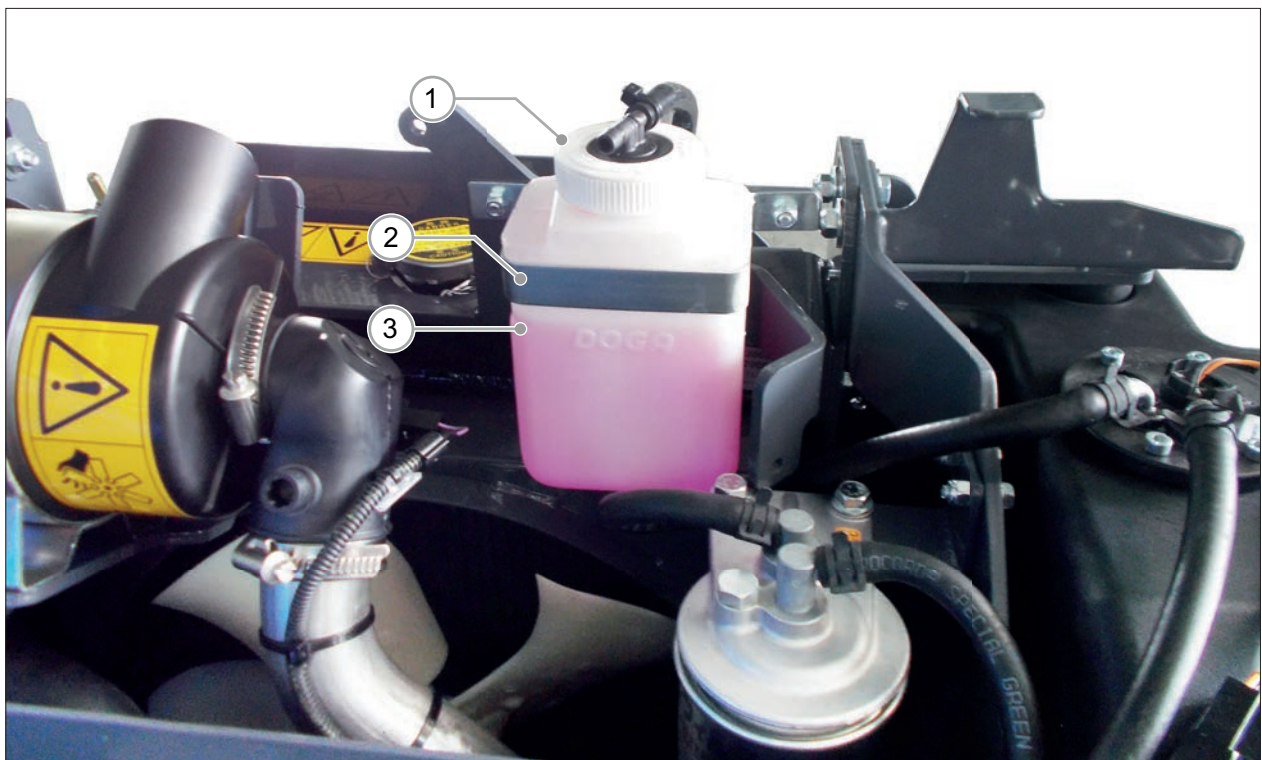

FIG. 51
- 4) The cold engine coolant level in the overflow tank (FIG. 51 - Ref. 1) should be between the two lines (FIG. 51 - Ref. 2 and Ref. 3).